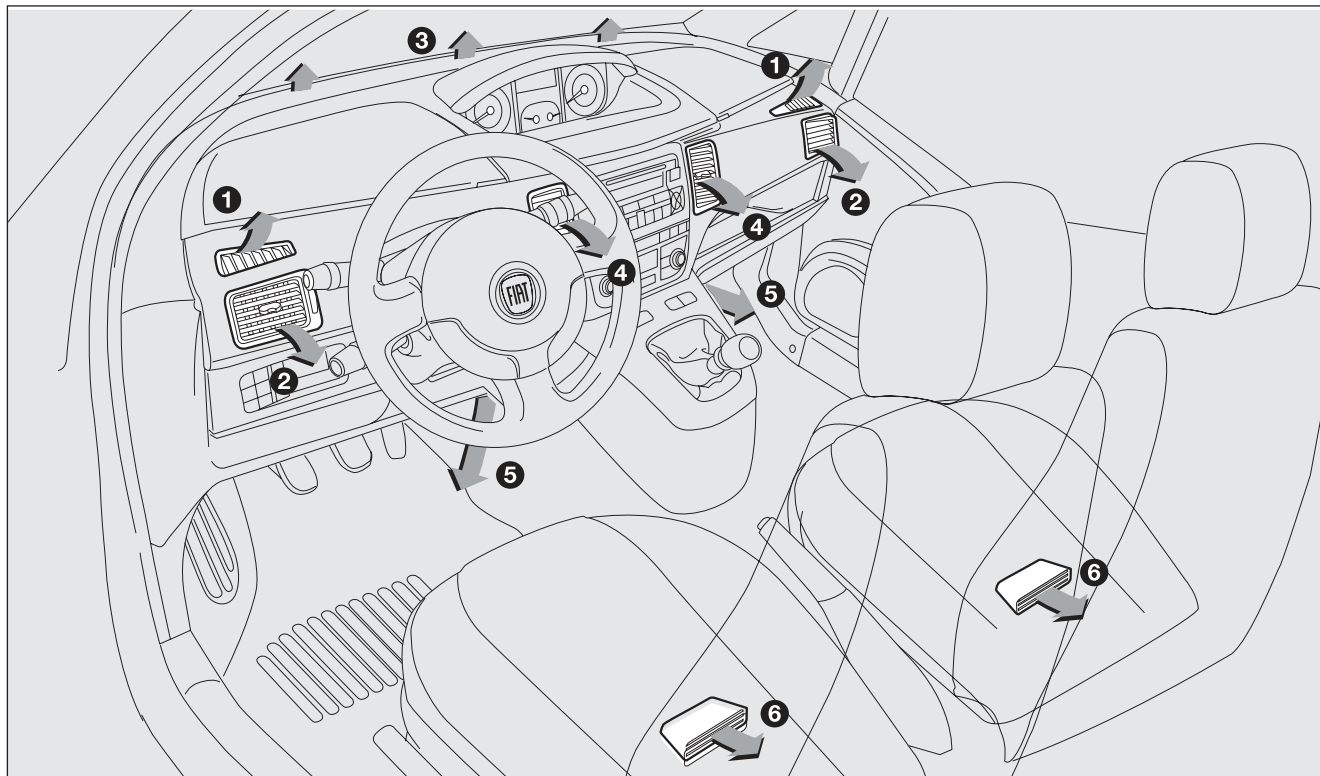

fig. 60
-  air flow from centre and side vents (2) and (4) **fig. 60**;
-  air flow from centre and side vents (2) and (4) and downwards (5) and (6) **fig. 60** (bilevel function);
-  air flow downwards (5) and (6) **fig. 60**;
-  air flow downwards (5) and (6) **fig. 60** and also to the windscreen (3);
-  to demist and defrost windscreen (3) and front side windows (1) **fig. 60**.
- open completely central (4) and side (2) **fig. 60** vents;
- air flow from central vents and side outlets (2) and (4) **fig. 60**;
- air flow from centre and side vents (2) and (4) and downwards (5) and (6) **fig. 60** (bilevel function);
- air flow downwards (5) and (6) **fig. 60**;
- air flow downwards (5) and (6) and also to the windscreen (3) **fig. 60**;
- to demist and defrost windscreen (3) and front side windows (1) **fig. 60**.